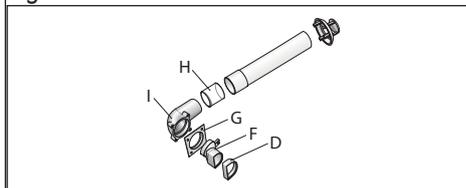

Fig. 15
- Insert pipe  $\varnothing$  35 mm or 90° elbow into adapter, putting the relevant seal **G** in-between, to be fitted in the coupling of the elbow or pipe (Fig. 15).
- To join an elbow to a pipe or put two pipes together, engage and cover them with the seal **H** (Fig. 15).